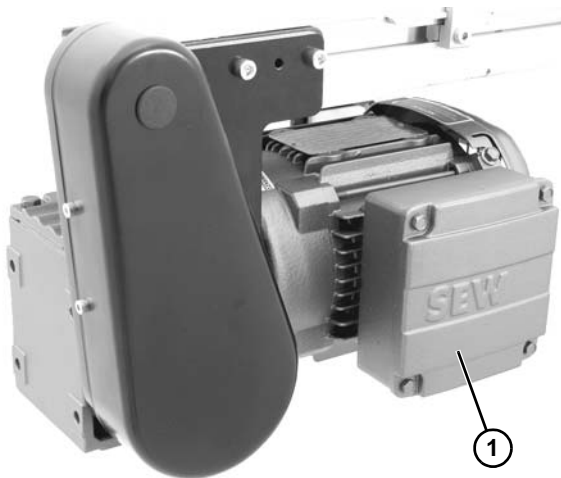

Figure 14
1. Remove cover (Figure 14, item 1).